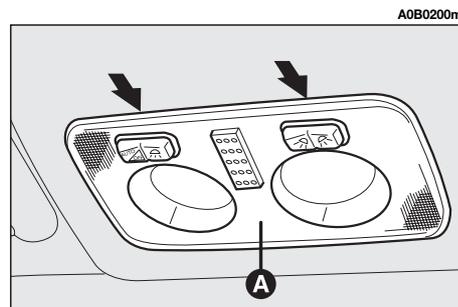

fig. 53
- Remove the roof light (**A**-fig. 53) levering in the points shown by the arrows.